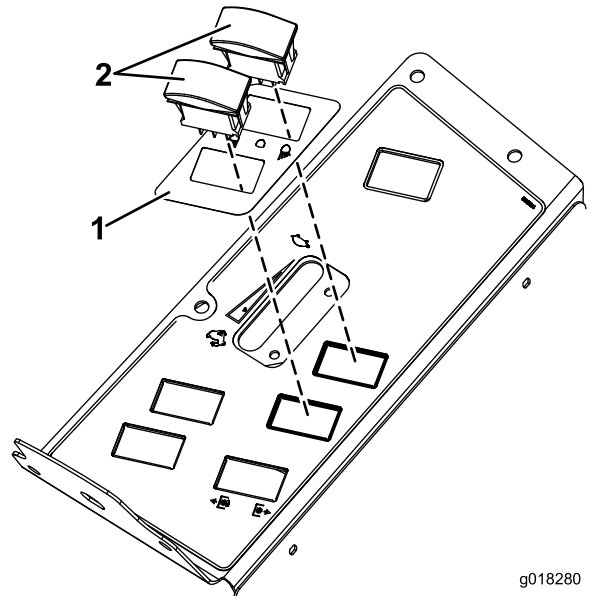

Figure 3
3. Clean the control panel surface and affix the decal around the exposed holes (Figure 3)
4. Insert a switch into each hole (Figure 3). Position the switch so that the flat side is toward the operator.